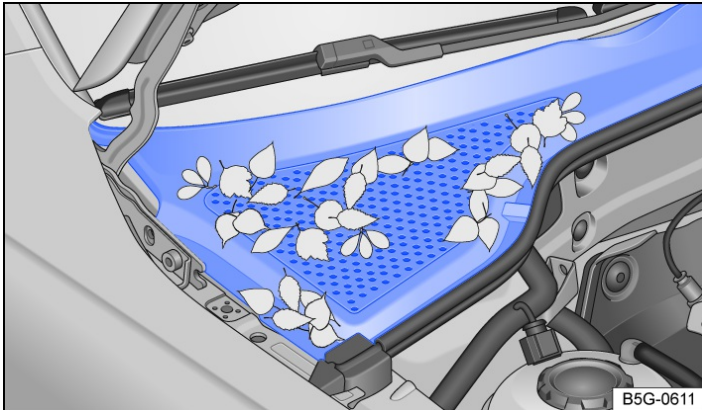

Fig. 1 Between the engine compartment and the windscreen: plenum chamber (illustration).
Remove leaves and other loose objects with a vacuum cleaner or by hand → Fig. 1 , → ①. Cleaning of the engine compartment should always be performed by a qualified workshop → ⚠.